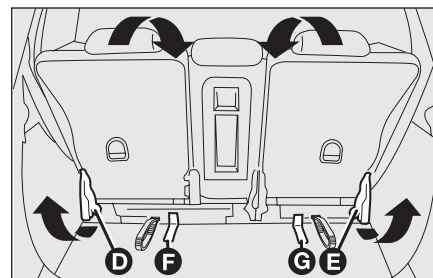

fig. 112
- ☐ use the levers **D** and **E**-fig. 112 to fold the rear cushions;
- ☐ use the ribbons **F** and **G**-fig. 112 to fully fold the seats.